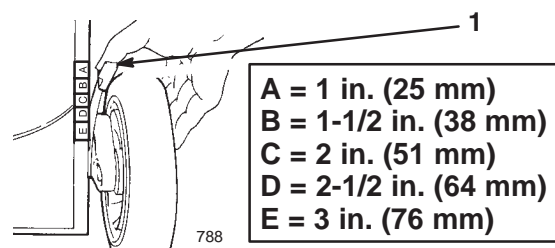

Figure 9
1. To change the cutting height, pull the cutting height lever toward the wheel and move it to the desired position (Fig. 9).